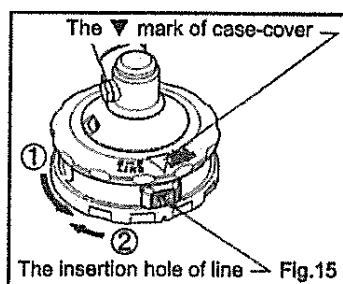

Fig. 15
1. Line up the ▼ mark on the case cover with eyelet. This operation is accomplished easily when the case cover is rotated in the ① direction and returned in ② the direction. (Fig. 15)